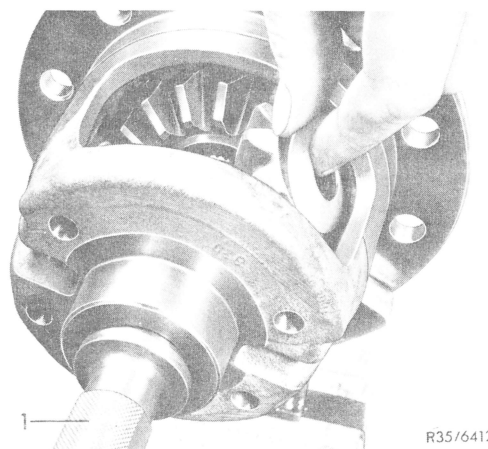

Fig. 5
6 Remove differential pinions with spherical washers (Fig. 5).
- 14** Mount differential pinions with new spherical washers (Fig. 5).